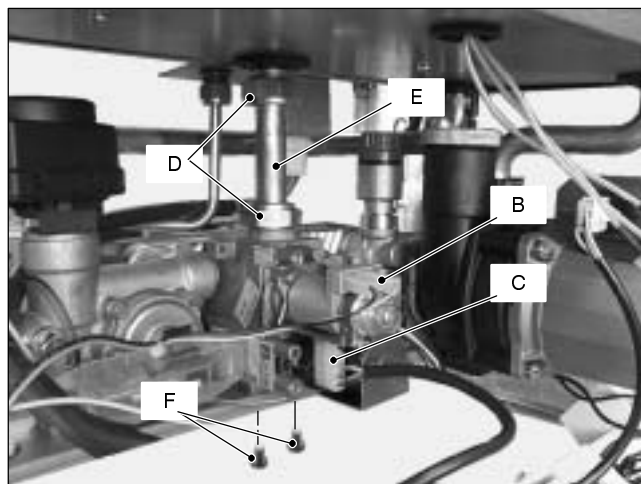

Fig. 47
- 2 Disconnect the connectors *B* (Fig. 47) from the modulating operator and measure the electrical resistance of the coil. Its electrical resistance value must be approx. $80 \Omega^*$.
- 2 Disconnect the electrical connector *C* (Fig. 47).
- 2 Disconnect the connectors *B* and *C* (Fig. 47).